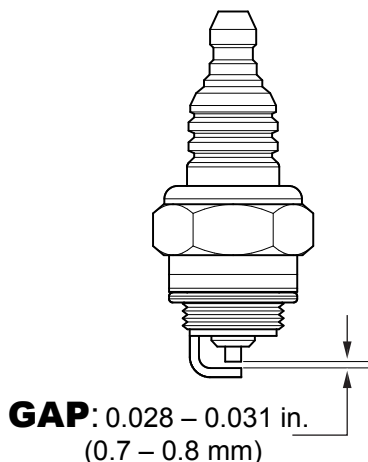

Figure 53. Spark Plug
1. Remove the spark plug (Figure 53) and clean it with a wire brush if it is to be reused. Replace the spark plug if the insulator is cracked or chipped.
2. Using a feeler gauge, adjust the spark plug gap (Figure 53). The gap should measure 0.028–0.031 inch (0.7–0.8 mm).